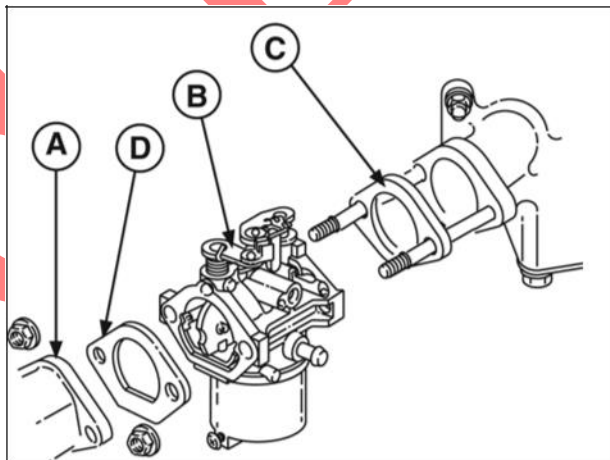

Figure 4
7. Remove nuts, air horn (A, Figure 4), carburetor (B), and insulator (C). Discard gaskets (D).